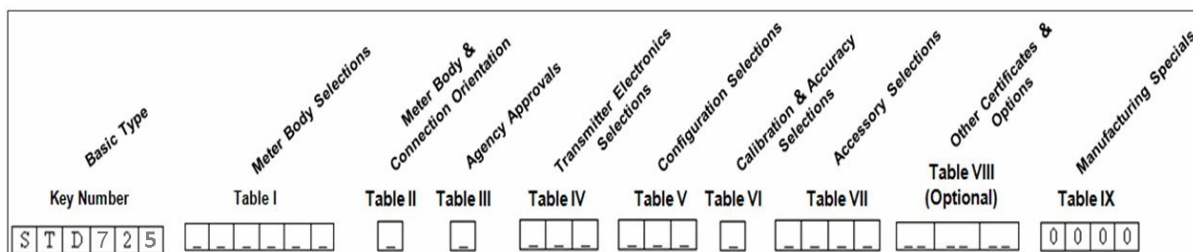

Figure 43 – ST 700 Basic Transmitter - Name Plate
The transmitter nameplate mounted on the bottom of the electronics housing (see Figure 42) lists its model number, physical configuration, electronics options, accessories, certifications, and manufacturing specialties. Figure 43 is an example of a typical Gauge Pressure (GP) or Atmospheric Pressure (AP) transmitter name plate. The model number format consists of a Key Number with several table selections. The Differential Pressure (DP), Absolute Pressure (AP), and Gauge Pressure (GP) name plates are essentially the same. The DP model provides one additional entry (7 vs. 6) in the meter body selections (Figure 43) to accommodate the static pressure rating.